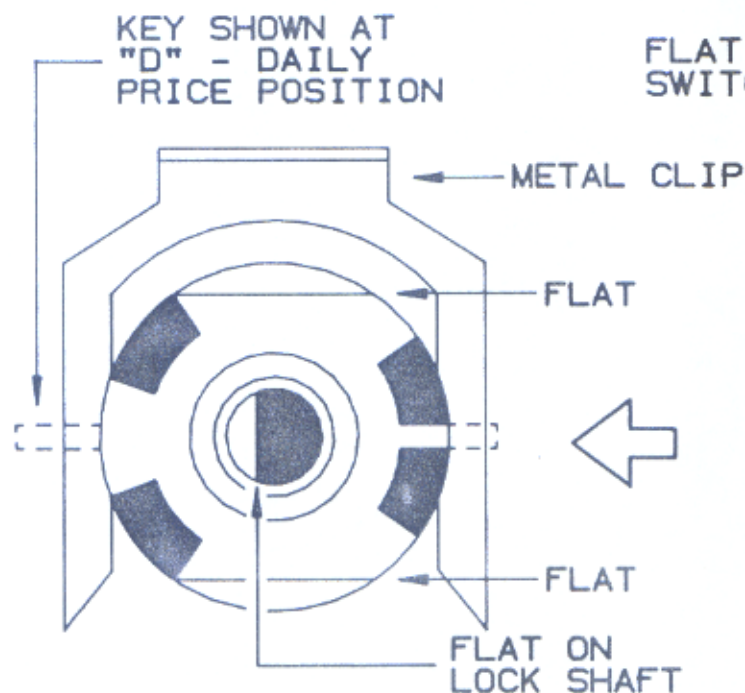

FIGURE 1
2. Turn key in lock to "DAILY" price position if necessary. See Figure 1 below for proper lock shaft flat rotation.